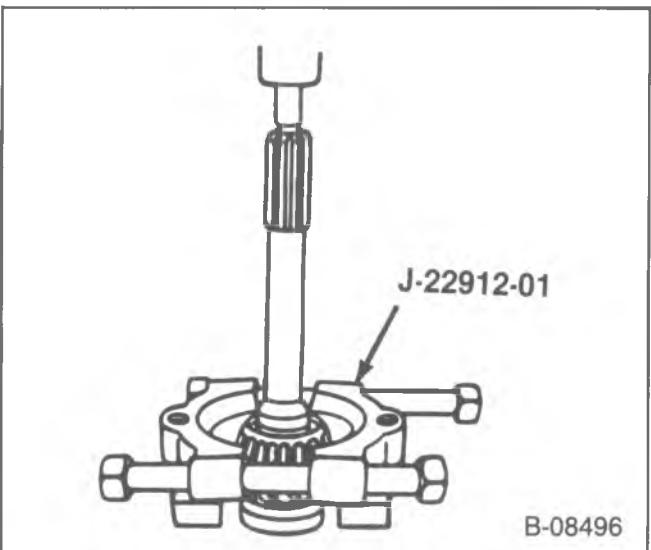

Figure 125—Removing the Main Drive Gear Bearing
1. Thrust bearing and the race (682).
2. Pilot bearings (681).
3. Bearing (680) using J-22912-01 (figure 125).
1. Bearing (680), using J-22912-01, (figure 125).
3. Thrust bearing and the race (682).